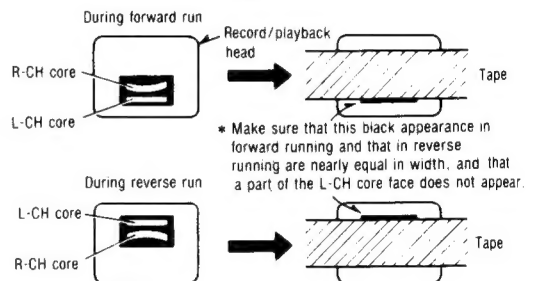

Fig. 4
4. Install a test tape (tape with mirror: QZZCRD) on the recorder; place the recorder in the FORWARD PLAY mode. Make fine adjustments of the tape guide height adjustment screws as necessary, to attain on the recording/reproducing head face the tape position shown in Fig. 4.
5. Run the tape in the forward play mode and check it for zigzag running. (Shown in Fig. 4) If zigzag tape running occurs, repeat step 4.
7. Repeat steps 5 and 6 two or three times and verify that the tape position shown in Fig. 4 is ensured.